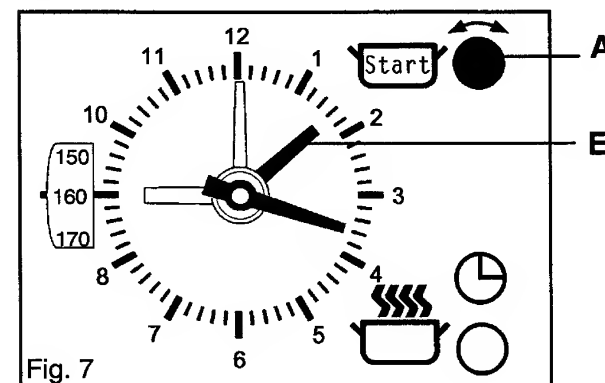

Fig. 7
- v) Set the start time, by **pushing in** and turning setting knob (A) in either direction until indicator (E) lines up with the time you want the food to start cooking, e.g. 1.30 p.m. as Fig. 7.